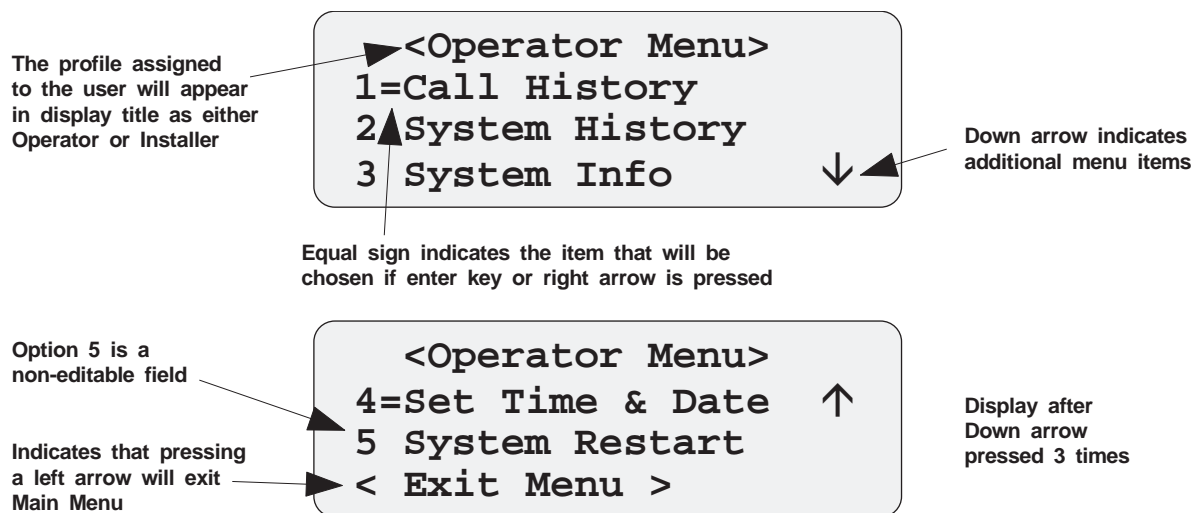

Figure 4-6 Main Menu Display
2. Choose the desired menu item (Figure 4-6).